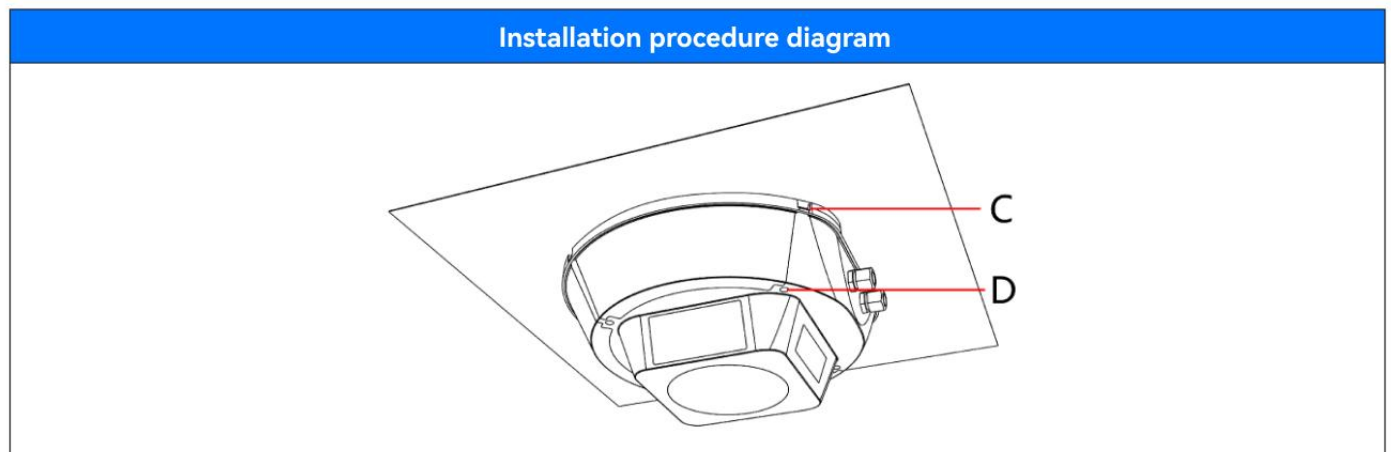

Figure 3.2
2. Route the rudder Angle signal cable and the dimming signal cable through the waterproof connector on the shell, and connect the cable to the wiring terminal on the circuit board according to the wiring instructions. Finally, as shown in FIG. 3.2, the main body of the three-sided rudder indicator should be upward and fastened to the card slot of the C top cover, and screws should be fastened to the D screw hole to ensure stability and reliability.